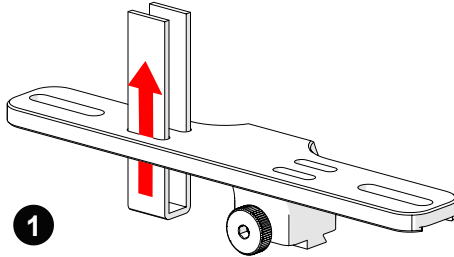

Fig. 150 - Insert velcro straps
1. Slide the velcro strap through the bracket's holes (*Fig. 150*).